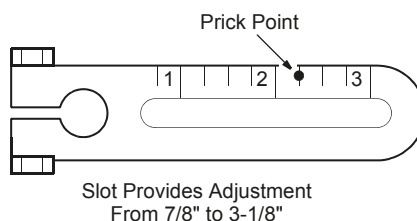

Figure-34 Proper Balljoint Position on Crank Arm.
- 3. Attach a balljoint to the actuator and damper crank arms at the correct position in the crank arm slot depending on the application. Refer to Figure-34, Table-8, and Table-9 for application settings. The use of 180° rotation damper actuators provides the best close-off at the end of stroke and the best controllability (turn down ratio).